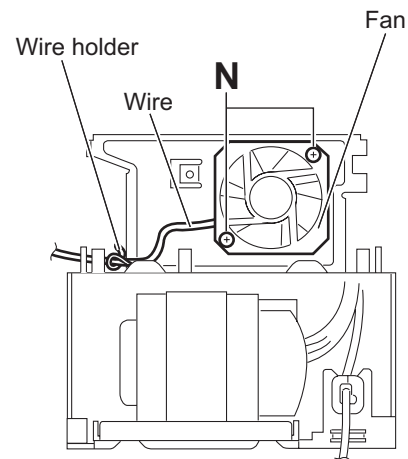

Fig.14
3.1.9 Removing the fan (See Fig.14)